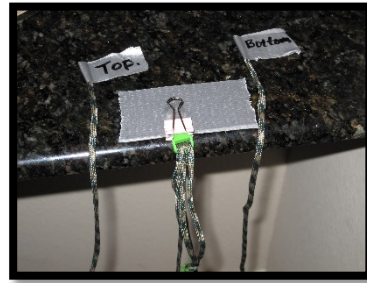

Figure 4.6
- Thread the two free strands through the strap bar, making sure that the strands do not cross (Figure 4.6).
- Wrap one of the strips of duct tape in half around the end of the **left** strand, making a flag label. Label this strand “TOP” (Figure 4.6).
- Repeat the above step for the **right** strand, labeling it “BOTTOM” (Figure 4.6).